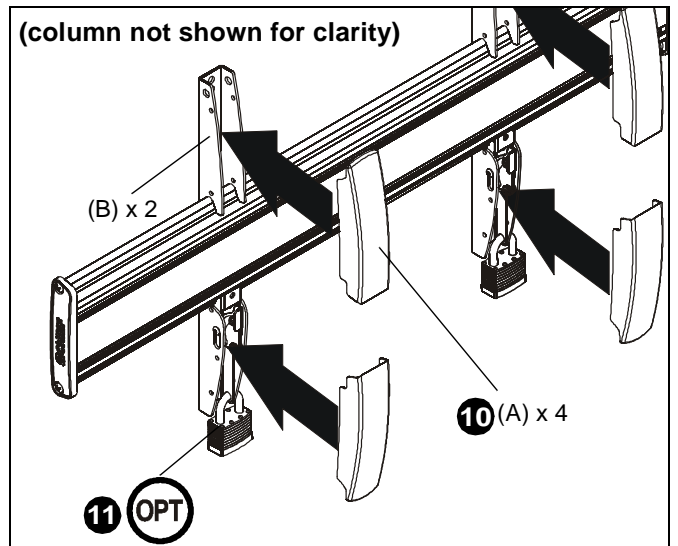

Figure 12
10. Snap four upright covers (A) onto uprights. (See Figure 12)
**NOTE:** Tabs on inside of covers (A) will snap directly into holes on uprights to ensure a secure connection.
11. (Optional) Use padlocks (not provided) to secure uprights to head assembly. (See Figure 12)